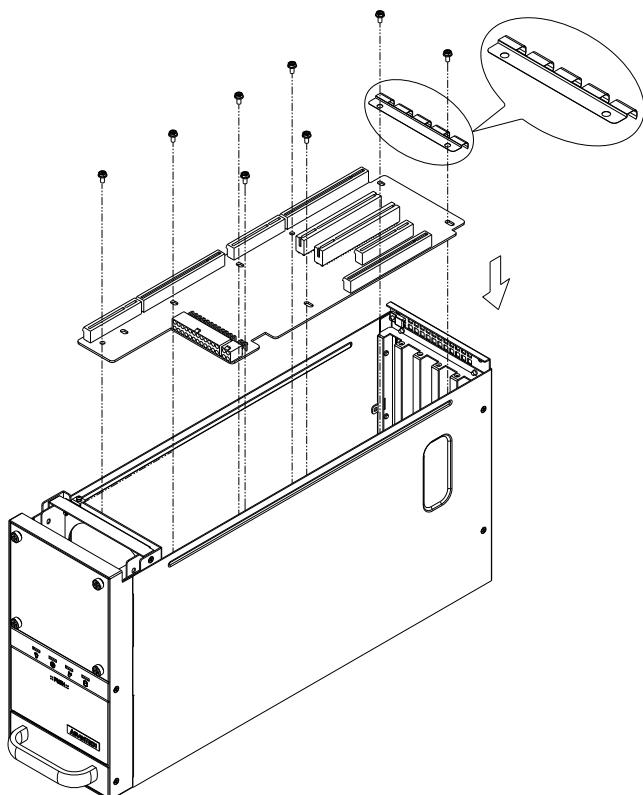

Figure 2.2 Installing the backplane/ 安裝无源底板 / 安裝無源底板
1. After installing a BACKPLANE, install the EMI finger (included in accessory box) on the rear side of the backplane (see Figure2.2)
2. And then fasten both backplane and EMI finger in place with the screws provided. (see Figure 2.2)
1. 安装完无源底板后可将 EMI 弹片（附件盒内已提供）安装至无源底板后部，如图 2.2 所示。
2. 然后使用附件盒内提供的螺丝固定无源底板和 EMI 弹片，如图 2.2 所示。